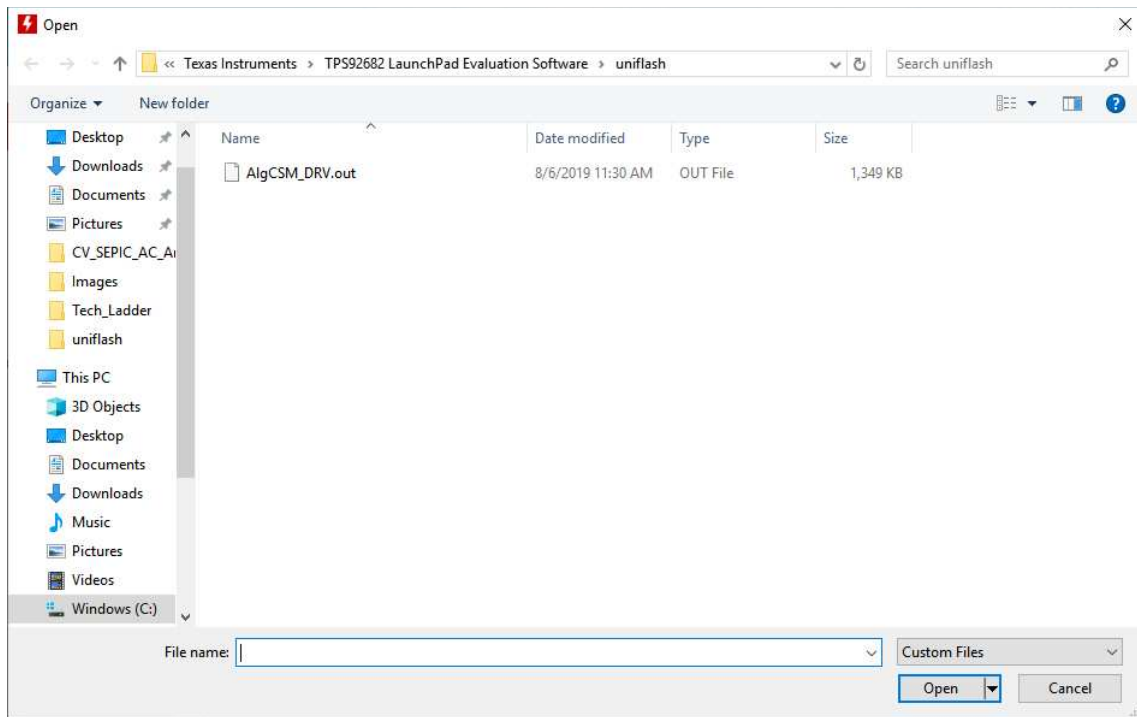

Figure 36. UniFlash Programming, Step 4
7. Select the **AlgCSM_DRV.out** file as shown in Figure 36